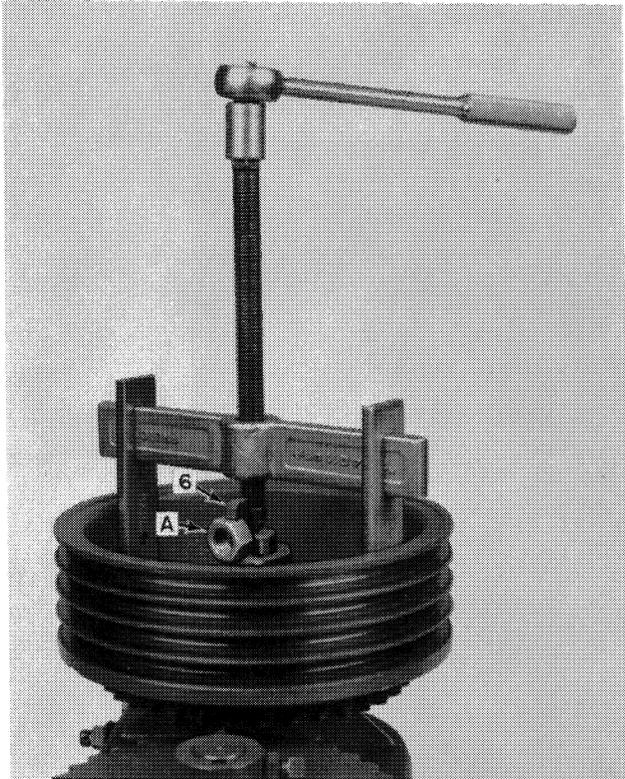

FIGURE 7
4. Use a scrap nut, A, to fill the space between the head of the gib key (6) and the sheave hub. See Figure 7. Use a suitable puller to pull the gib key and sheave as one assembly.